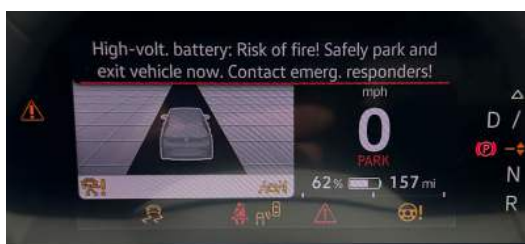

Figure 1. Example of message in driver display
- The following message is displayed in the driver display (see Figure 1):